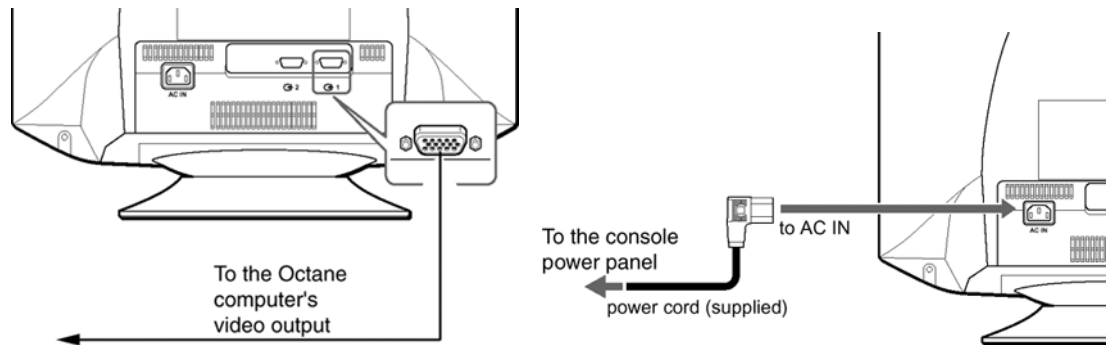

Figure 2-11 Monitor Connections (Sony Model GMD-F520 -- GE #2333243)
- 1.) With the monitor and computer switched off, connect the video signal cable to the monitor's video input (see Figure 2-11) and to the computer's video output.